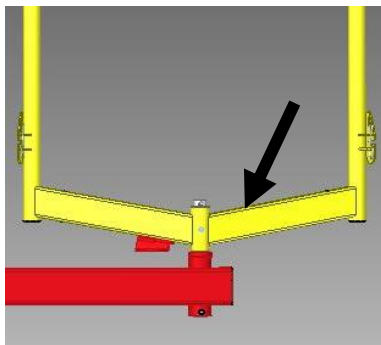

Figure 5
- Install the tine section fork on the flange frame (Figure 5).